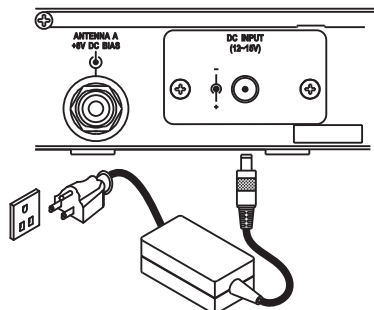

Fig.4
- (B) Connect the power supply to the DC input jack ⑮ and plug the other end into an AC power source, Fig. 4.